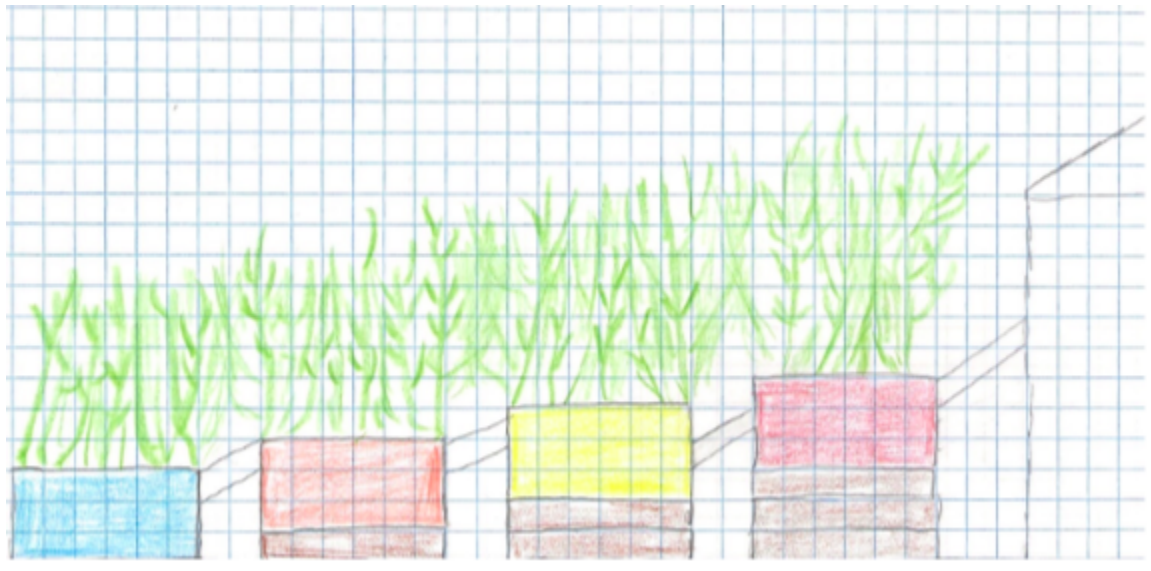

Fig 3.
• Figure 3 - Sketch of clumping bamboo plant design (Page 4)